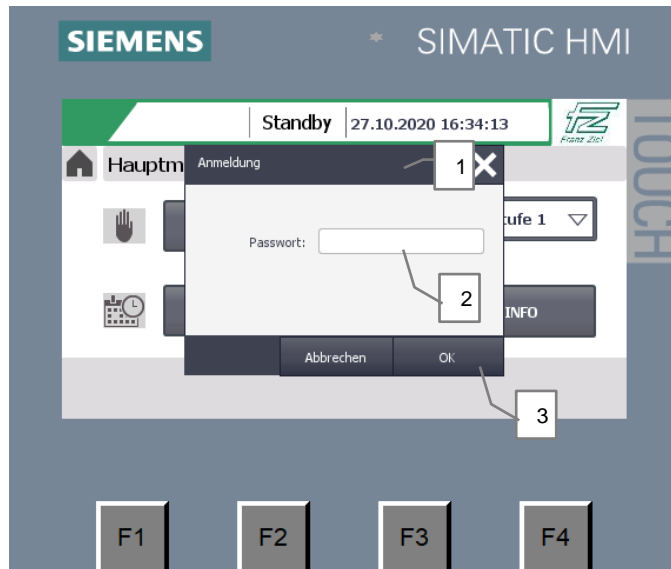

Fig. 5-2: Password entry
- 3. Press “Enter” (5)
- 4. Confirm the input by clicking “OK” (3) in the login window (Fig. 5-2).